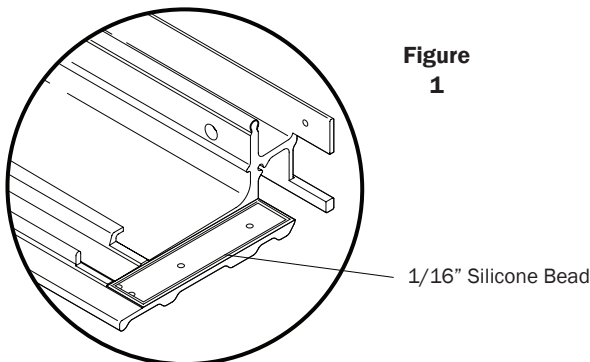

Figure 1
1. Apply 1/16" silicon bead onto sill dado at both ends (Fig.1). **NOTE:** Frame needs to be assembled within 15 minutes of this silicon detail.